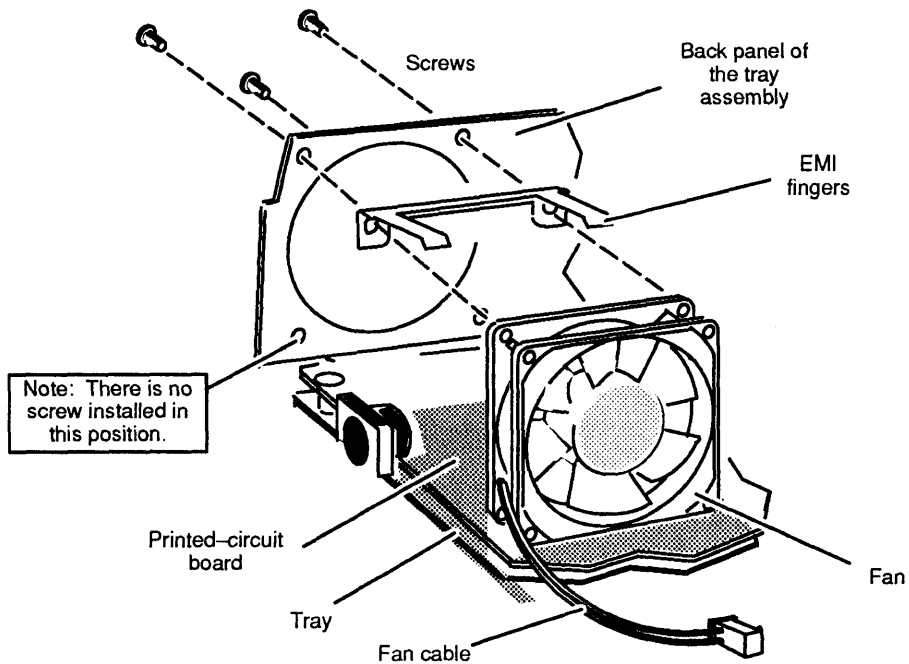

Figure 4-9 Removing the Fan
3. Using a Philips screwdriver, remove the three screws that attach the fan and the electromagnetic interference (EMI) fingers to the back panel of the tray assembly, as shown in Figure 4-9.